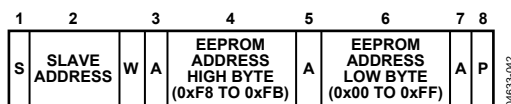

Figure 37. Setting an EEPROM Address
- To set up a 2-byte EEPROM address for a subsequent read, write, block read, block write, or page erase. In this case, the command byte is the high byte of EEPROM Address 0xF8 to EEPROM Address 0xFB. The only data byte is the low byte of the EEPROM address, as shown in Figure 37.